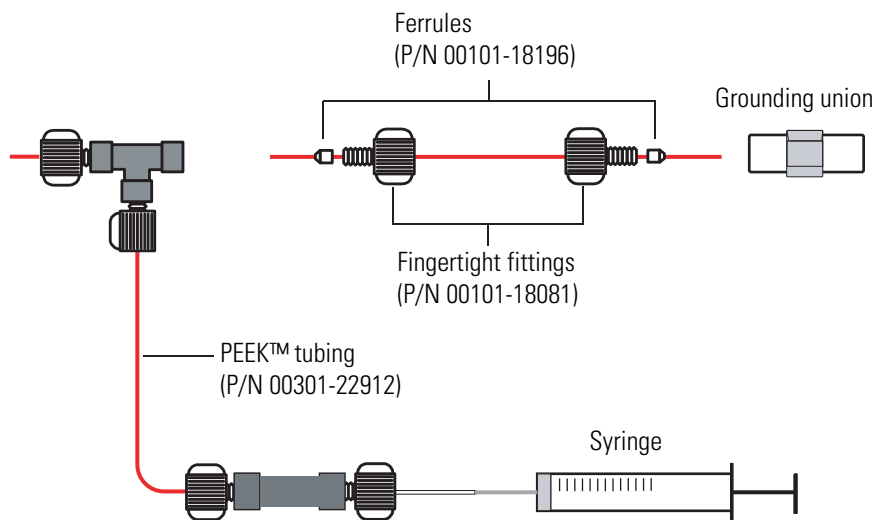
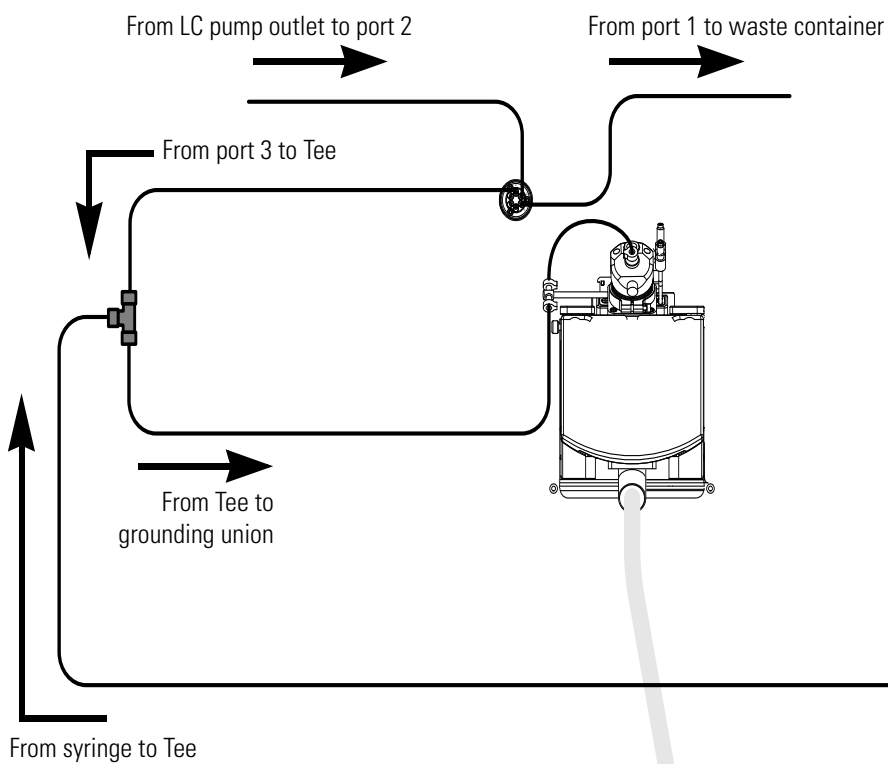
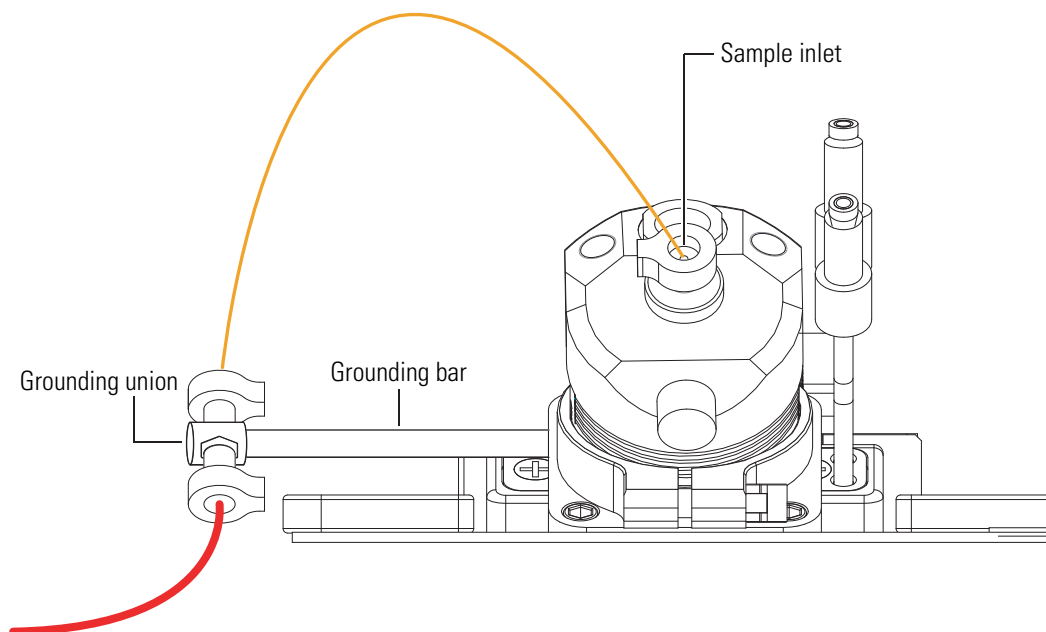

Figure 5-14. Connecting the union Tee to the grounding union used for the ESI probe
Figure 5-15. Plumbing diagram showing ESI/MS sample introduction with high-flow infusion
Figure 5-19. Connecting the grounding union to the sample inlet of the ESI probe
- For the ESI probe, use a fingertight fitting and a ferrule to connect the other end of the tubing to the grounding union that is held by the grounding bar of the Ion Max API source. See Figure 5-14 and Figure 5-15. The grounding union slides into the grounding bar on the Ion Max API source as shown in Figure 5-19 on page 5-33. For instructions on connecting the grounding union to the ESI probe sample inlet, refer to the *Ion Max and Ion Max-S API Source Hardware Manual*.